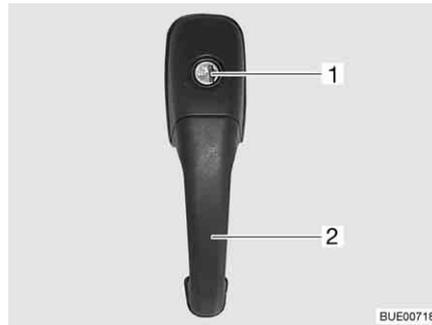

Fig. 56 Door lock of conversion door, outside
- Insert the key into locking cylinder (Fig. 56,1) and turn until the door lock is unlatched.
- Pull on the handle (Fig. 56,2). The door is open.
- Insert the key into locking cylinder (Fig. 56,1) and turn until the door lock is engaged.